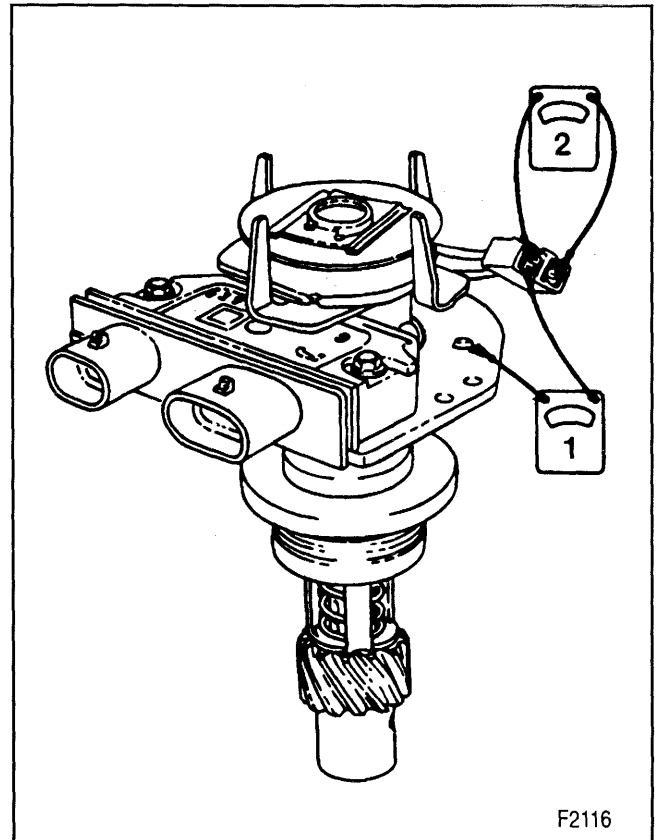

Figure 7—Testing the Pickup Coil
- A. Connect J 39200 to either pickup coil lead and the housing as shown in step 1 of figure 7. The reading should be OL (infinite). If not, replace the pickup coil.
- B. Connect J 39200 to both pickup coil leads as shown in step 2 of figure 7. Flex the leads by hand at the pickup coil and the connector to locate any intermittent opens. J 39200 should read a constant value from 500 to 1500 ohms. If not, replace the pickup coil.